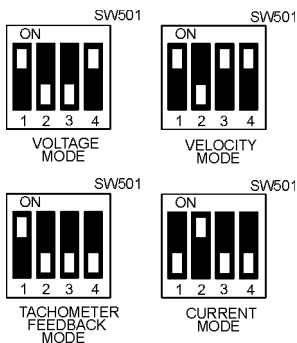

Figure 22. BOSS-4Q Mode Select Switch Settings
3. Set the MODE SELECT switch (SW501) for voltage mode by setting switches 1 and 4 to ON. Set switches 2 and 3 to OFF. Refer to Figure 22, page 57.